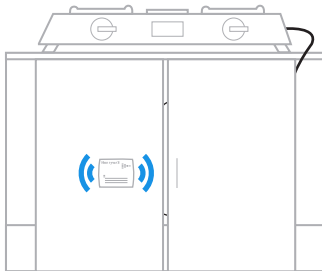
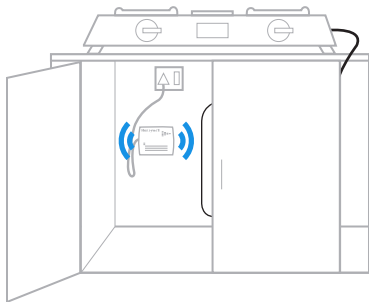

Fig. 3: Mounting Gas Leak Detector on the front door of kitchen cabinet
Fig. 4: Mounting Gas Leak Detector behind the gas cylinder
LPG Detector has unique enclosure design. After selecting the right location, fix the unit on the wall with the wall mounting plugs and screws provided with the unit. The unit can be installed as shown in Fig. 3. or Fig. 4.
1. It can be mounted on the front door of the kitchen cabinet of the LPG Cylinder. This will enable detection of gas leak from the cylinder as well as the gas stove. Refer to the following diagram (Fig. 3).
2. If it is mounted behind the gas cylinder, the cabinet for the gas must have grills to detect gas leak from the gas stove also. Refer to the following diagram (Fig. 4).
Note: When there is a leak from the gas stove because of a faulty connection to the tube or by leaving gas burner ON accidentally without a flame, the LPG may not reach the confined area near the cylinder where an LPG Detector and LPG sensor is installed. To avoid this, install the unit as shown in Fig. 3 or Fig. 4.